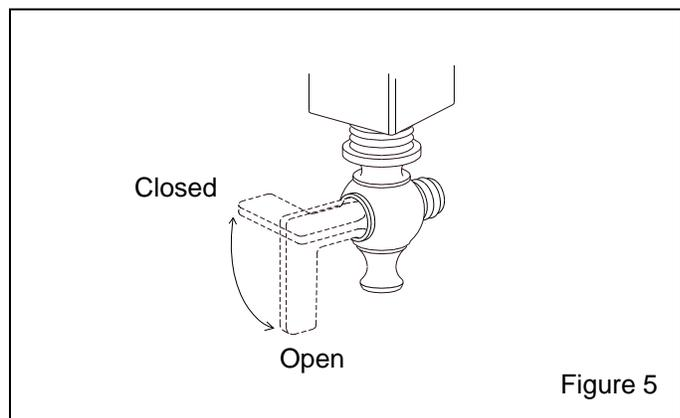

Figure 5
3.2.10 Open the safety petcock on the inlet section of the Millennium valve. It is open when the lever is in-line with the petcock, as shown in Figure 5.